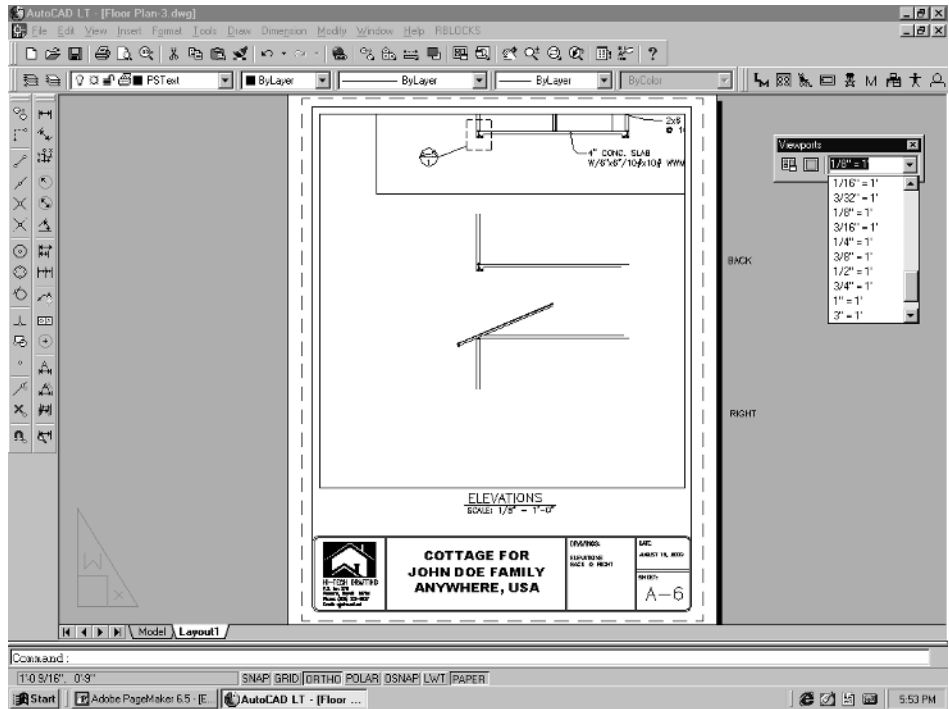

Figure 5-7
6. Notice that we have the Viewports toolbar up on the screen. It's a good idea to have this toolbar up somewhere on your screen all the time (LT 2000/2000i only). This single viewport is at $1/8" = 1'$ scale. If you pick the little arrow key on the right-hand side of the scale window, a cascading menu will drop down with all the different scales. See Figure 5-7. If you want to make sure that the viewport is still holding the $1/8" = 1'$ item from the toolbar, pick on the $1/8" = 1'$ item from the toolbar. For LT 98, you would type **ZOOM** and **Enter**. Then type **1/96xp** and **Enter**.